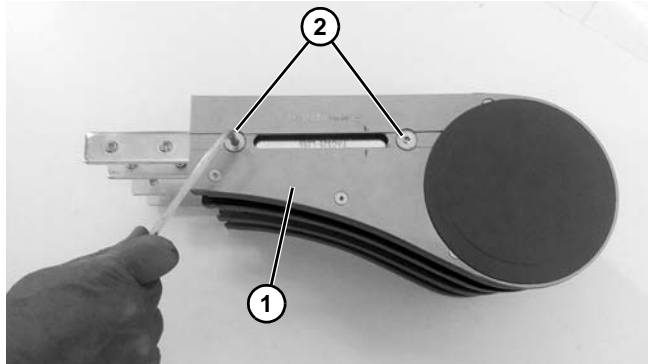

Figure 113
2. Remove outer plates (**Figure 113, item 1**) and connecting hardware by removing two screws (**Figure 113, item 2**) on both sides of the conveyor.